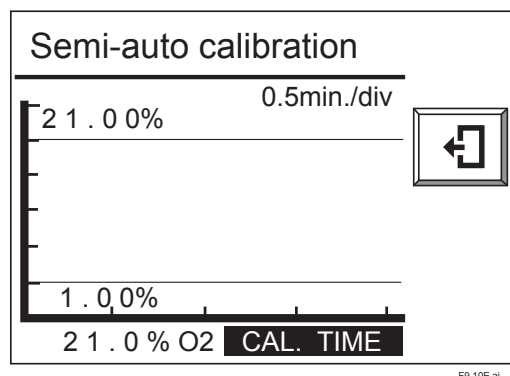

Figure 9.13 Semi-auto Calibration Display
- (3) Select "Start calibration". The display shown in Figure 9.13 appears, and then start calibration.